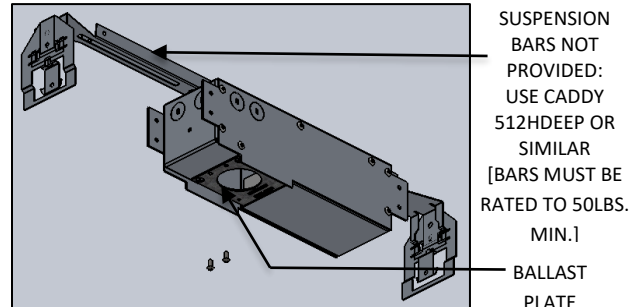

FIG. 17- DRIVER PLATE DISASSEMBLE
13. Remove the DRIVER PLATE by removing the Two Screws and slide out as shown below in FIG. 17.